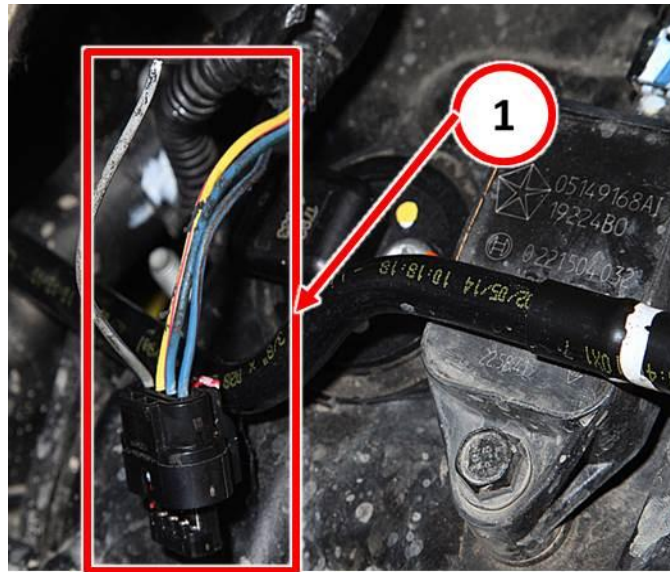

Fig. 3 CMP Sensor Connector
- 4. Repair any damaged wiring to the CMP harness near the connector. See (Fig. 3). Refer to detailed repair instructions in DealerConnect/TechConnect Service Information Section 29 - Non-DTC Diagnostics> Circuit Testing Procedures> Standard Procedure> WIRE SPLICING.